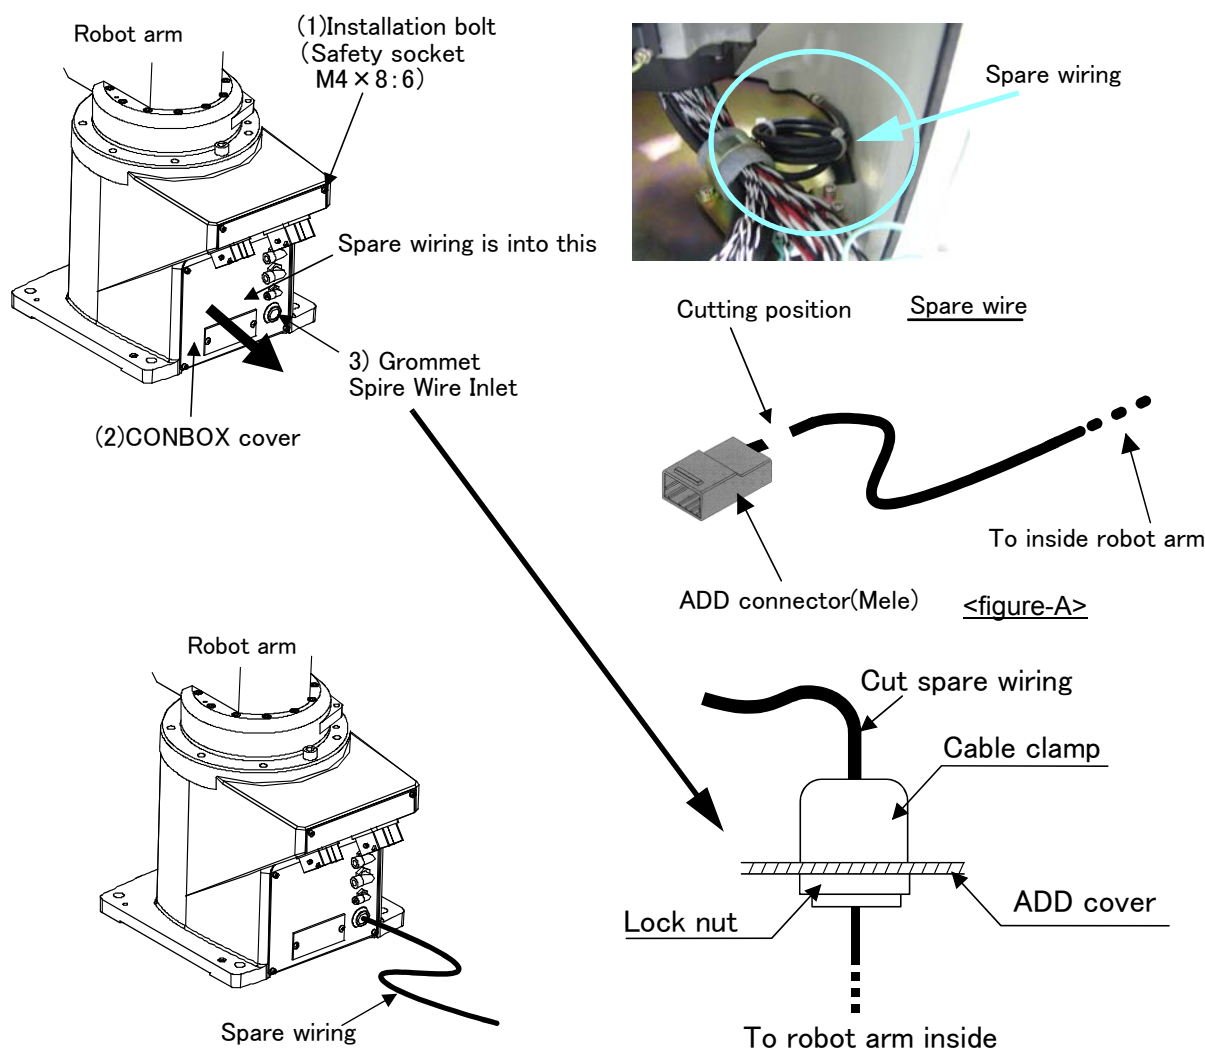

Fig.2-9 : Pull out spare wiring(Base area)
- 5) Cut spare wiring near the connector (from the connector end to the about 10-20mm. Refer to figure-A in Fig. 2-9)
- 10) Install CONBOX cover(2) as before. Apply the screw lock to installation bolt (1), fix it with torque (4.1Nm to 4.9Nm). (Recommendation screw lock: Lock tightness 242 (Henkel Japan maker., Inc.) Be careful not to damage the seal material of the shape of the sponge pasting on "A section" If it damages, there is a possibility that protection specification may fall. Also be careful not to insert the cable